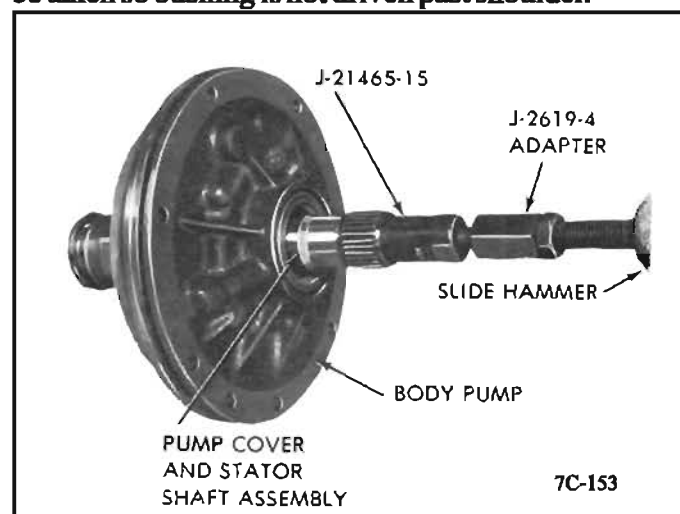

Figure 130 Front Stator Shaft Bushing Removal
1. Check front stator shaft bushing for nicks, severe scoring or wear. If bushing replacement is necessary, remove as follows: Assemble bushing remover J-21465-15 to adapter J-2619-4. Assemble this assembly into slide hammer J-2619-01. Clamp slide hammer into vise. Grasp stator shaft and remove bushing. *See Figure 130.*